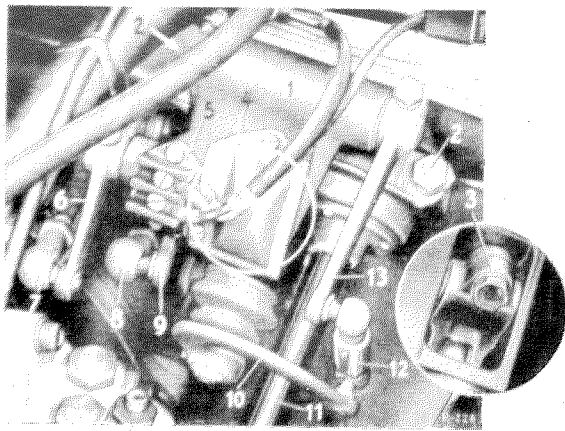

Fig. 01 — 1/3
11. Detach the exhaust suspension support (2) at the mounting plate (1) on the transmission, and press the support (2) slightly outward together with the exhaust pipe (see Fig. 01 — 1/4).